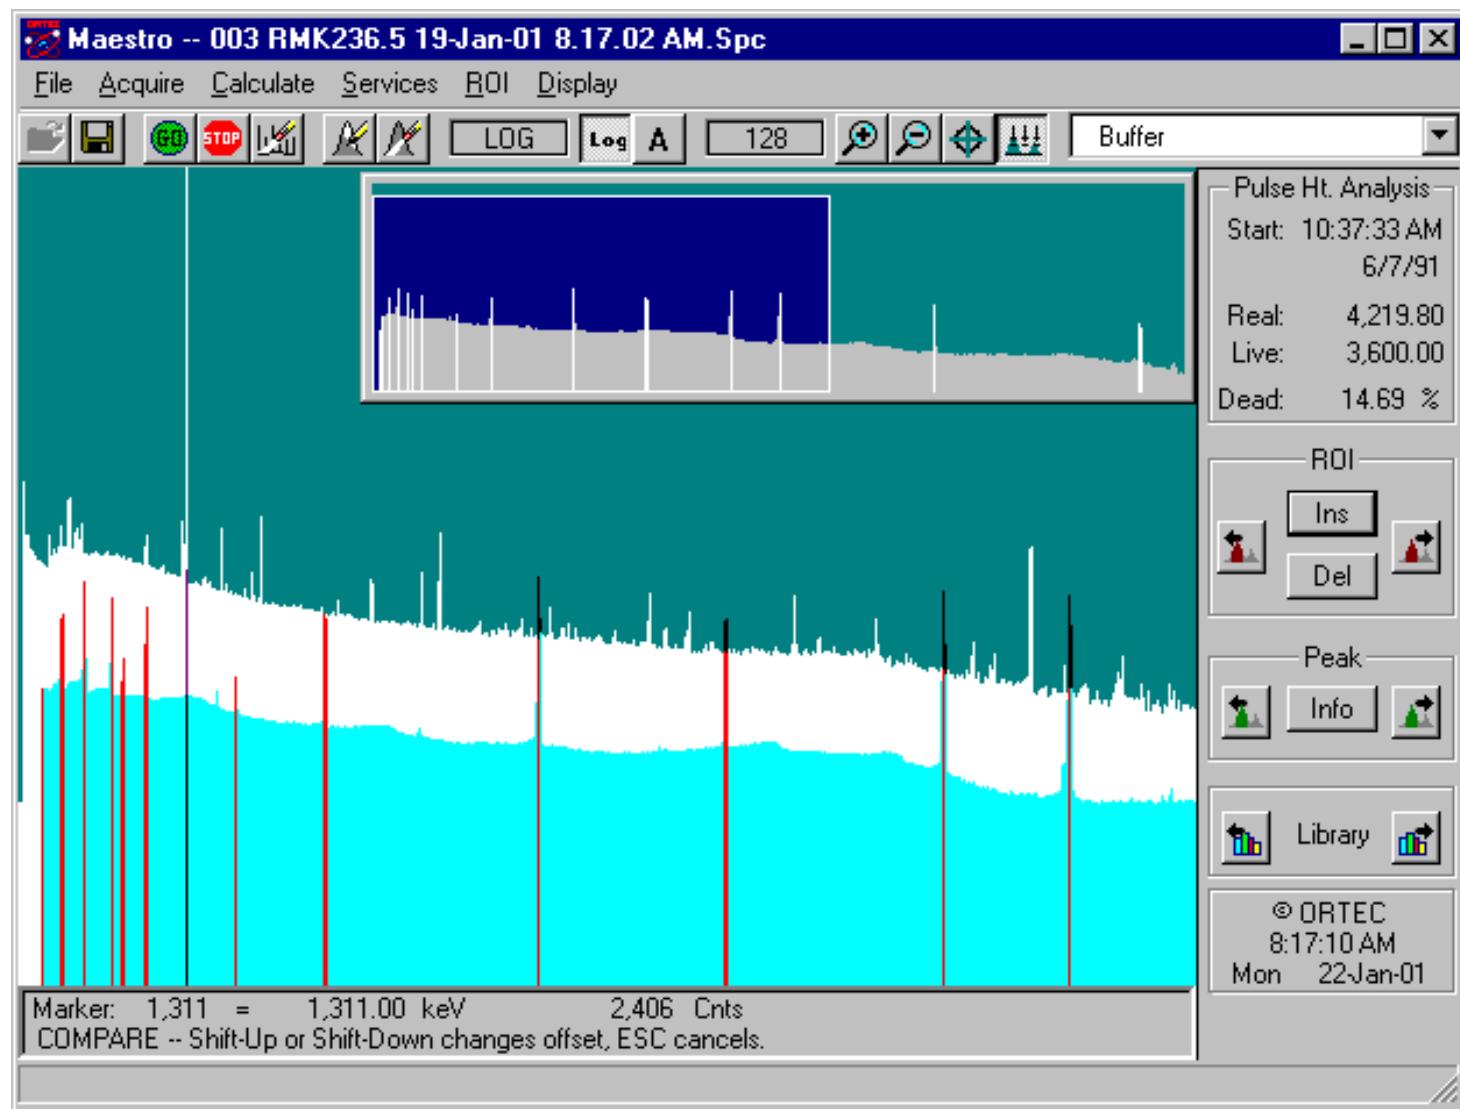
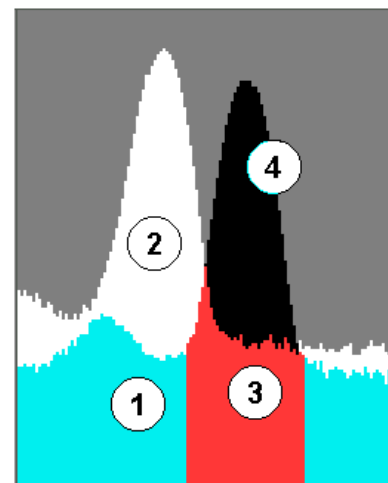

Fig. 41. Compare Mode Screen.
Fig. 42. Spectrum Colors in Compare Mode.
This function displays a spectrum from disk along with the current spectrum so the two can be visually compared. A standard file-recall dialog box opens. Once the desired spectrum file is selected, the Expanded Spectrum Window shows both spectra, as illustrated in Fig. 41.
Figure 42 is a zoomed-in portion of Fig. 41. In this illustration, the starting spectrum is displayed in color (1), the Compare spectrum is shown in color (2), the starting spectrum's ROIs are marked in color (3), and the portion of the starting spectrum that exceeds the Compare spectrum is indicated by color (4). These colors — called **Foreground**, **Compare**, **ROI**, and **Composite**, respectively — are chosen on the **Color Preferences** dialog discussed in Section 3.6.11.2.